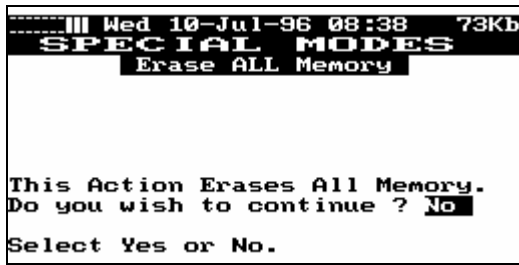

Figure 29
- SM17** Select “**4--Initialize Analyzer**” and press **[ENTER]**. The screen, in figure 29 below, will be displayed. The answer field automatically defaults to **No** to prevent you from accidentally initializing the analyzer. If you do not wish to continue with the Initialize Analyzer function, make sure the **No** is displayed in the answer field and press **[ENTER]**. The screen will return to the “Manage Data” menu screen. If you do want to initialize the analyzer, press any **[ARROW]** key to toggle the answer field to **Yes** and press **[ENTER]**. All Memory will be erased which includes data, loaded procedures and specified operational parameters such as back light time and max number of lines of resolution. and the screen will momentarily go blank. The analyzer will then begin checking memory and will display the real-time results on screen as the check progresses. You will now have only the basic analyzer functions available until a procedure is loaded or reloaded into memory. All user defined parameters are also changed to the default settings.